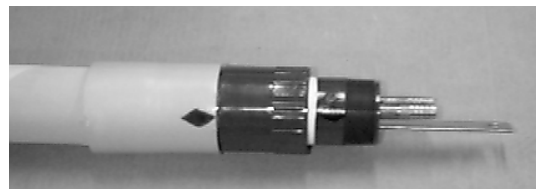

Figure 4
2. The diamond on the Shell should match up with the diamond on the Bulkhead. Both should be in the "up" position. (See Figure 4)